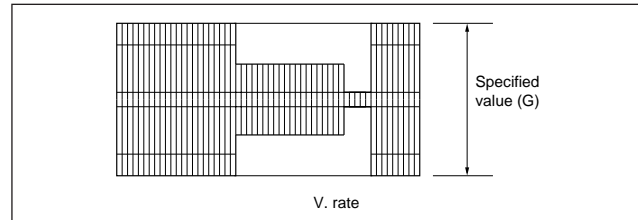

Fig. 3-3-3b REC color (colour) level
- (1) Connect the adjustment tool (H2) to the measuring point (D1).
- (2) Apply the external trigger signal to D.FF (E) to observe the PB color (colour) waveform at the measuring point (D2).
- (3) Play back the signal (A3) in the mode (B1) of the alignment tape (A1).
- (4) Set the VCR to the manual tracking mode.
- (5) Adjust tracking so that the PB color (colour) waveform becomes maximum. Make a note of the higher PB color (colour) level as "B" at this time.
- (6) Record the signal (A3) in the mode (B1), and play back the recorded signal.
- (7) Set the VCR to the EVR mode by transmitting the code (F1) from the Jig RCU.
- (8) Set the EVR address to (F2) by transmitting the code (F3) from the Jig RCU.
- (9) Transmit the code (F4) from the Jig RCU to adjust so that the higher level channel becomes the specified value (G) of the note "B" level as shown in Fig. 3-3-3b. (Adjust before recording, then confirm it by playing back.)
- (10) After adjustment, record the signal (A3) then playing it back again. At this time, confirm that there is no inverting phenomenon or noise appearing on the playback screen.